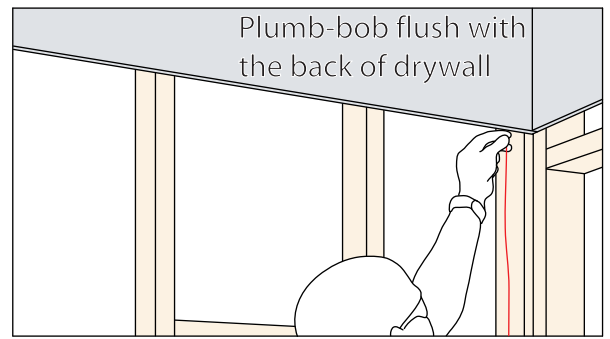

Figure 9
9. Hang a plumb-bob FLUSH with the back side of the drywall from temporary screws. **See Figure 9**